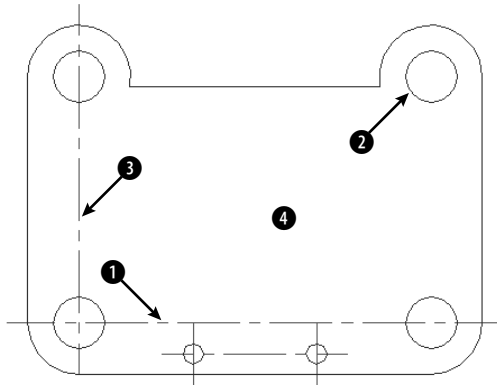

Figure 10-9: A tension arm for a commercial dryer.
2. Save the file as `ab10-03.dwg` in your AutoCAD Bible folder. It looks like Figure 10-9. Set a running object snap for center, and turn on OSNAP.
Pick ① in Figure 10-9.